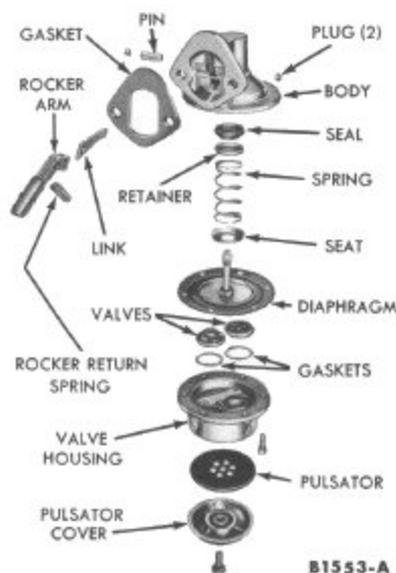

FIG. 30—Fuel Pump Assembly
The fuel pump is shown disassembled in Fig. 30.
4. Install the rocker arm pin. Coat the plugs with sealer. Install the plugs (Fig. 30) and stake them in place. Install the rocker arm return spring in the rocker arm.